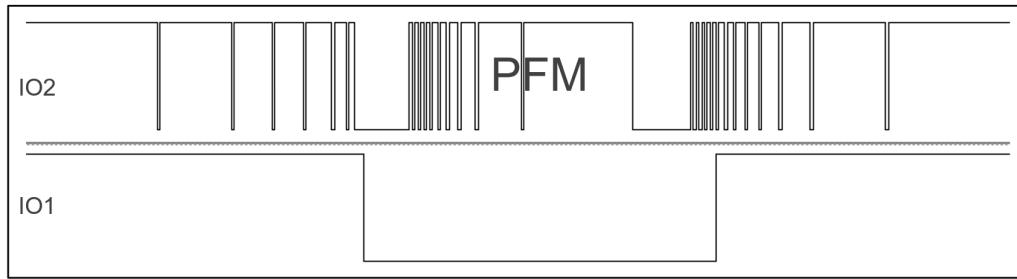

Figure 5.3: Movement (PFM) and Activation Output
- ‘00’ - The default pulse frequency modulated (PFM) signal indicates intensity of movement by the density of pulses. This is a relatively slow output that may trigger occasional interrupts on the master side. See Figure 5.3. Most intense detectable movements are indicated by active low pulses with 10 ms width (20 ms period). Saturated movement intensity is indicated by a constant low.